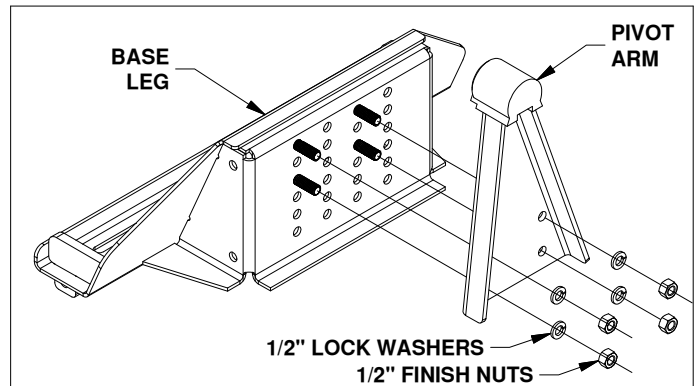

Figure A5: Base leg and pivot arms.
4. Secure arms. Locate both pivot arms, eight 1/2" lock washers, and eight 1/2" nuts. Place the flat side of the pivot arm over the cap screws and attach eight lock washers and nuts, see Figure A5. Torque each bolt connection to 110 ft-lbs.